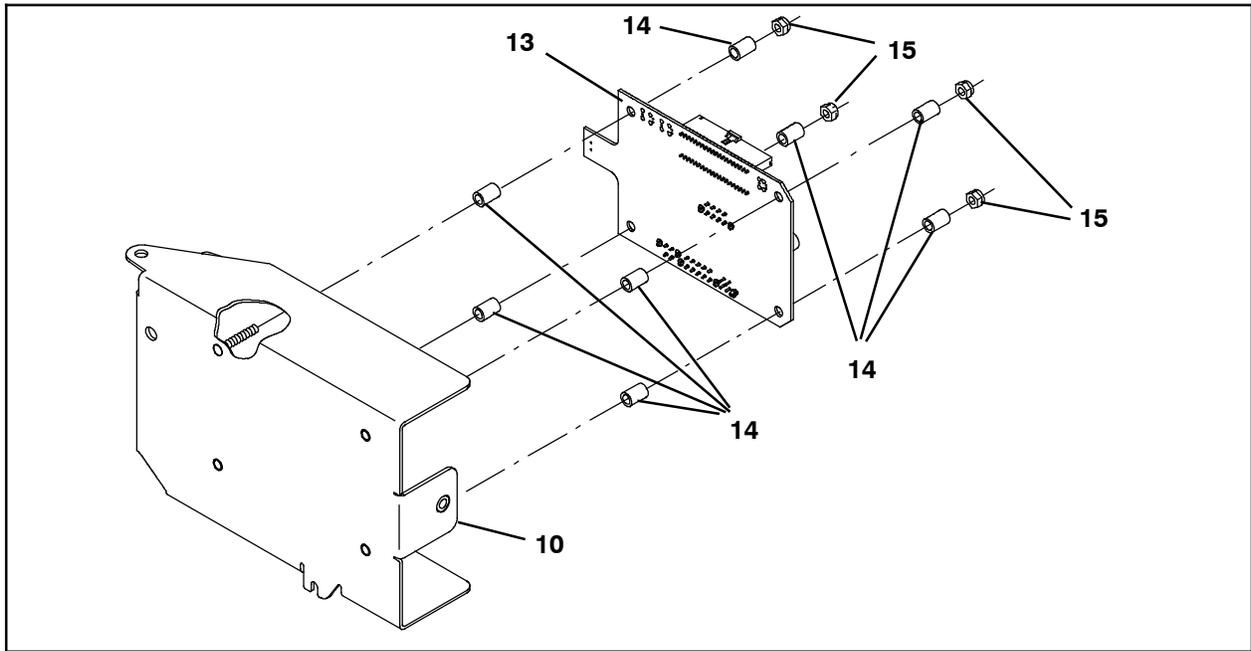
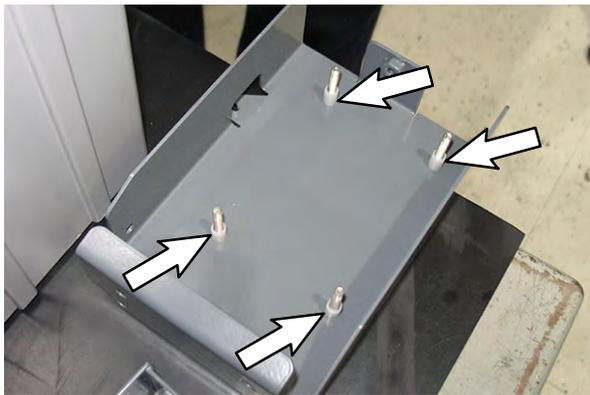
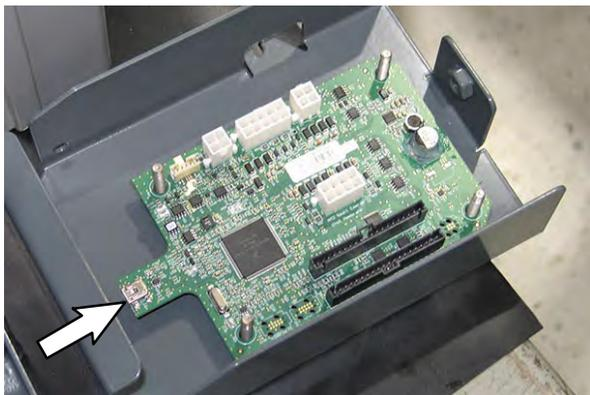
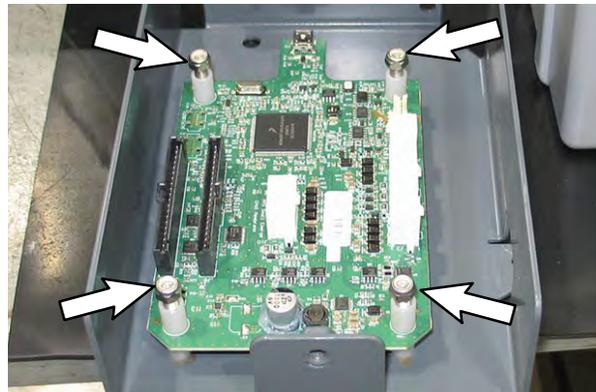

FIG. 17
FIG. 18
FIG. 19
FIG. 20
8. Install four nylon spacers (14) onto the M5 studs on the board mounting plate (10). (Fig. 17/Fig. 18)
9. Install the communication board (13) onto the board mounting plate (10). (Fig. 17/Fig. 19)
10. Use four M5 hex nuts (15) and four nylon spacers (14) to secure the communication board (13) onto the board mounting plate (10). Do Not over tighten the M5 hex nuts. Communication board could be damaged if the M5 hex nuts are over tightened. (Fig. 17/ Fig. 20)